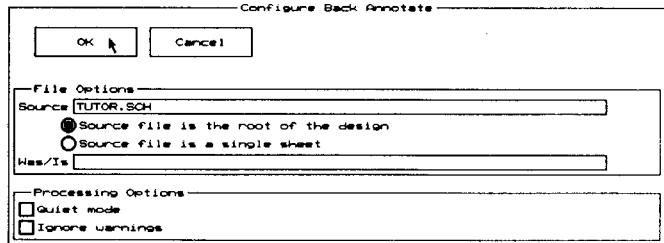

Figure 7-11. The *Configure Back Annotate* screen.
4. Return to the **Schematic Design Tools** screen and select **Back Annotate**. Select **Local Configuration** and then **Configure BACKANNO**. The screen shown in figure 7-11 displays.